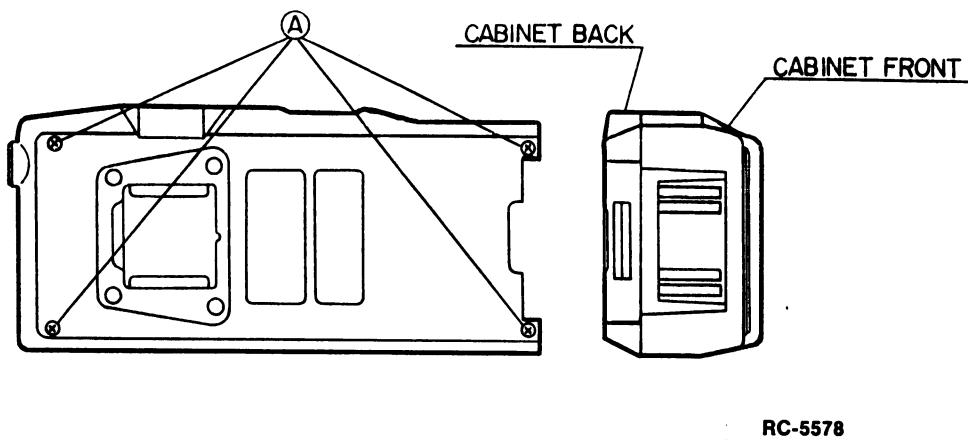

FIGURE 21 - DISASSEMBLY STEP 1
2. Carefully remove the back cover. For normal radio alignment, the back cover is all that need be removed. When tightening the screws, they should be no tighter than 4 +0.5 inch pounds (See Figure 21).